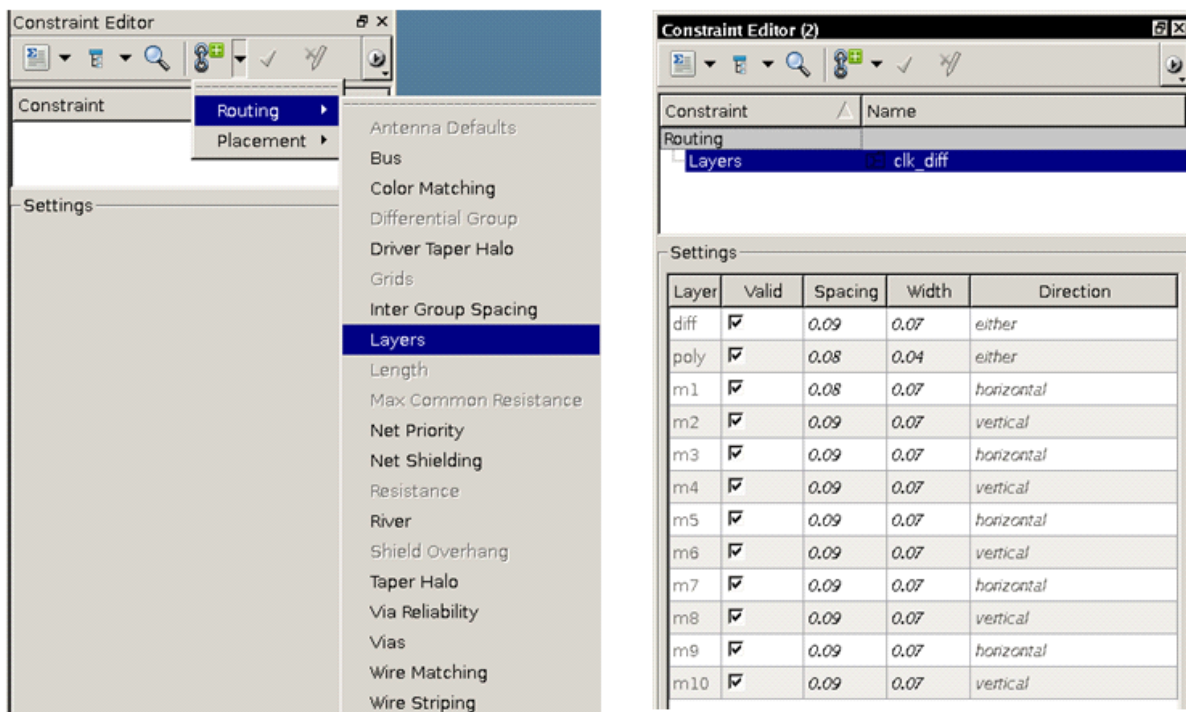

Figure 12 Creating an NDR in the Constraint Editor
- b. Click the **Constraints** button  to open the list of available constraints (shown in Figure 12).
- c. Select **Routing** from the list, which opens the list of available routing constraints (shown in Figure 12).
- d. Choose **Layers** from the list, which adds the Layer constraint (shown in Figure 12).